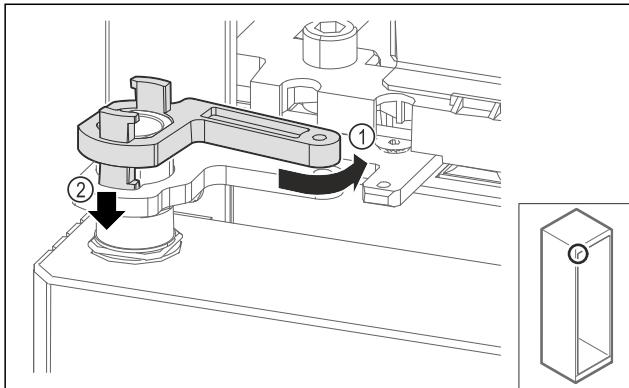

Fig. 63
- ▶ Turn the swap bearing block back slightly *Fig. 63 (1)*, push it downward *Fig. 63 (2)* and lock it in the hinge angle bar.